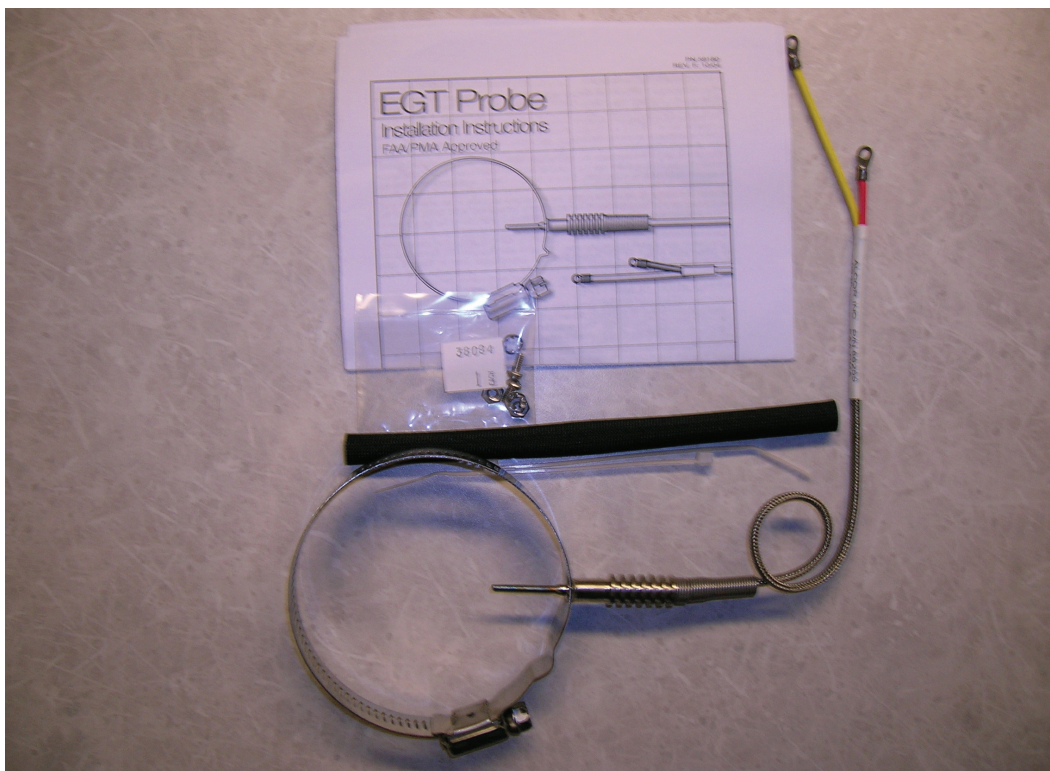

Figure 8-5 EGT Package
Perform the following steps and refer to Figures 8-5, 8-6, and 8-7 to install an EGT sensor.
1. EGT probes (Figure 8-5) should optimally be mounted between 2 and 4 inches from the cylinder head on a flat portion of the exhaust tube. To maintain consistent readings across cylinders, all probes should be mounted an equal distance from the exhaust flanges.